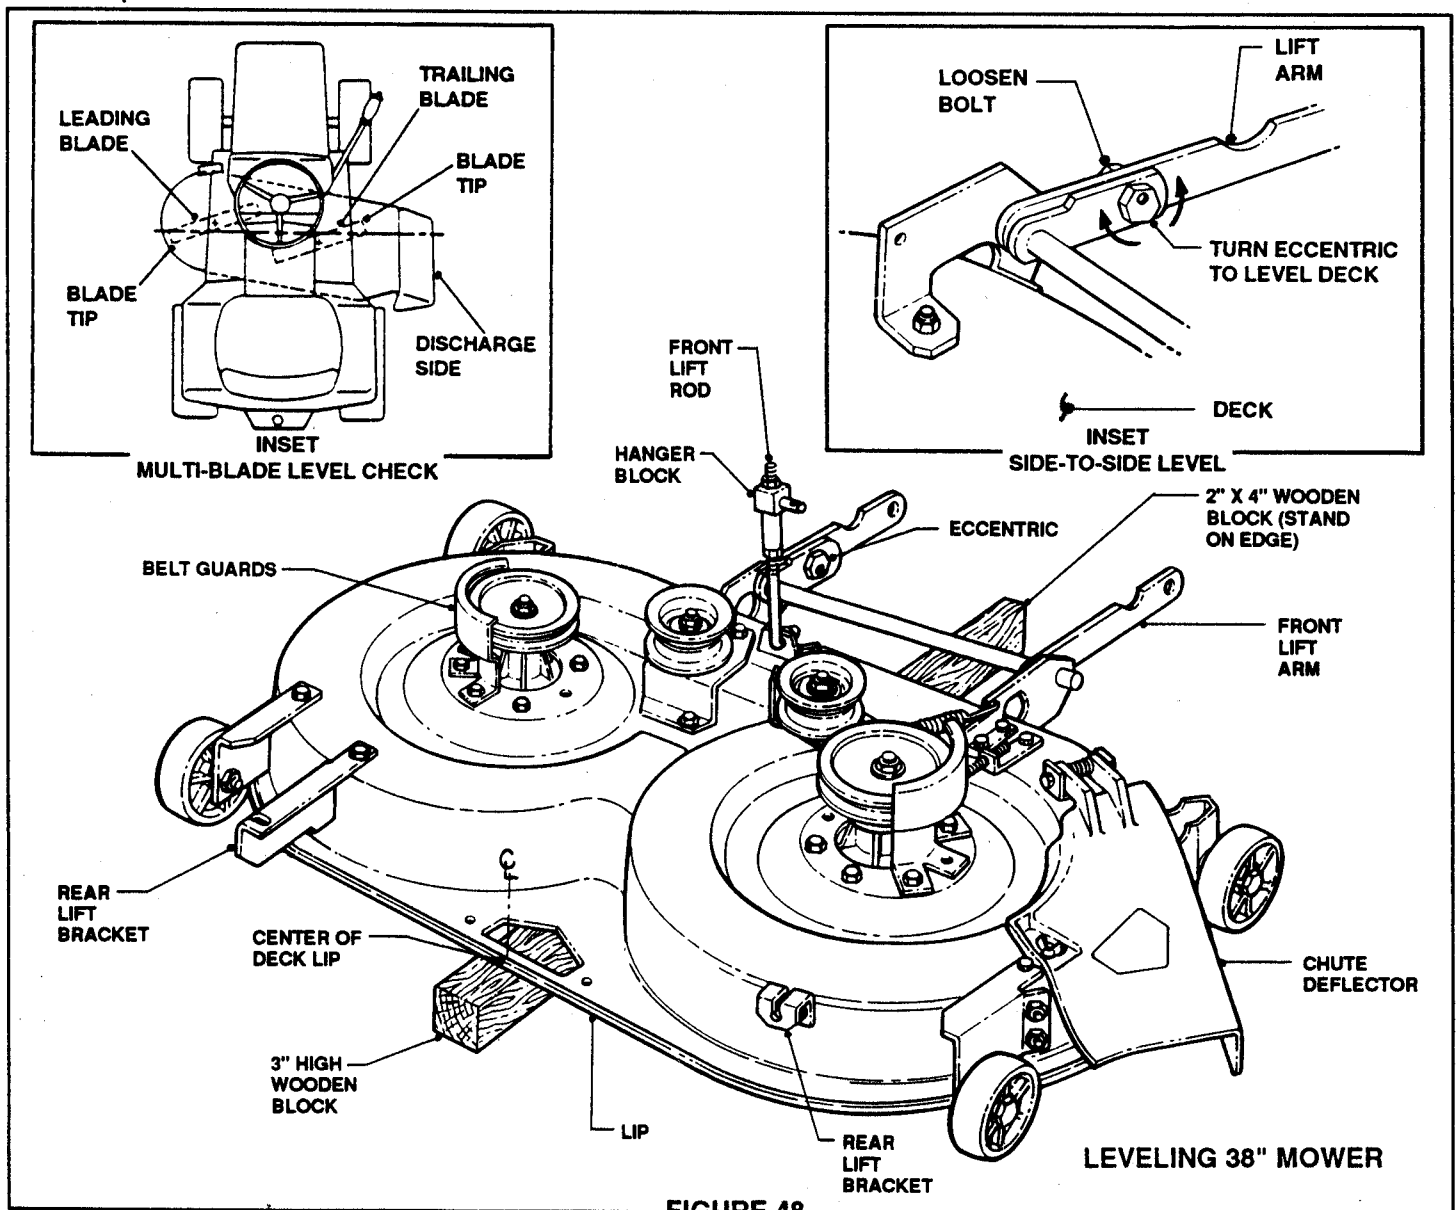

FIGURE 48
- C. Make sure that the distance from the floor to each blade tip is within 1/8" of each other at the rear (Blades should be lower at the rear). See Page 19, Figure 48 for blade level.
4. Place a 2 x 4" block on edge under the front lip of the deck in the exact center between the front lift arms. See Figure 48.
5. Disconnect the front lift rod and allow the front lip of the deck to rest on the 2 x 4 block. Adjust the hanger block until the lift rod can be reattached while the deck is still on the block. See Figure 48.
8. Turn both blades perpendicular to tractor frame. The leading blade should have one "tip" near the center of left side deck lip. One "tip" on trailing blade should face the discharge chute. See INSET, Figure 48.